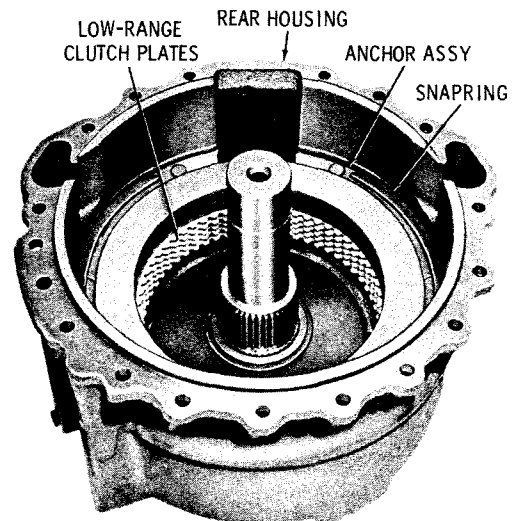

Fig. 5-33. Rear housing and low-range
(3) Position the rear housing, rear downward and remove the large snapping that retains the clutch anchor assembly (fig. 5-33).
(4) Remove the clutch anchor assembly, five external-tanged clutch plates and five internal-splined clutch plates as an assembly (fig. 5-33). Separate the plates from